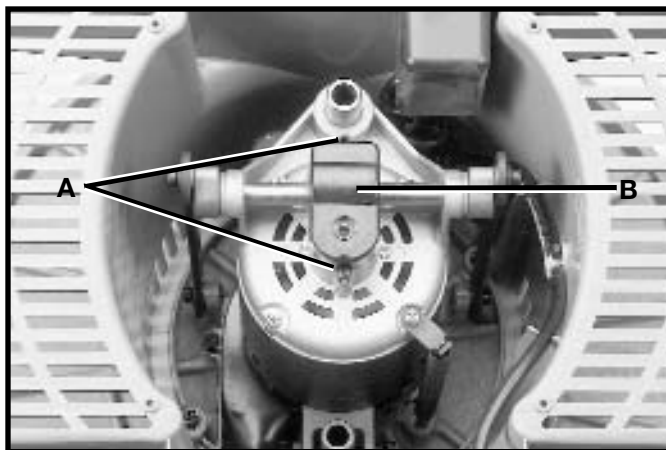

Fig. 25
2. Turn the machine over and loosen the two screws (A) Fig. 25, and remove the cover (B).